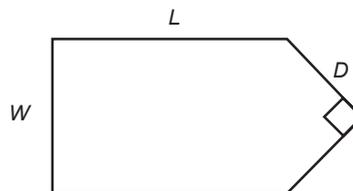

Figure P25
25. A fence around a field is shaped as shown in Figure P25. It consists of a rectangle of length  $L$  and width  $W$  and a right triangle that is symmetric about the central horizontal axis of the rectangle. Suppose the width  $W$  is known (in meters) and the enclosed area  $A$  is known (in square meters). Write a MATLAB script in terms of the given variables  $W$  and  $A$  to determine the length  $L$  required so that the enclosed area is  $A$ . Also determine the total length of fence required. Test your script for the values  $W = 6$  m and  $A = 80$  m2.